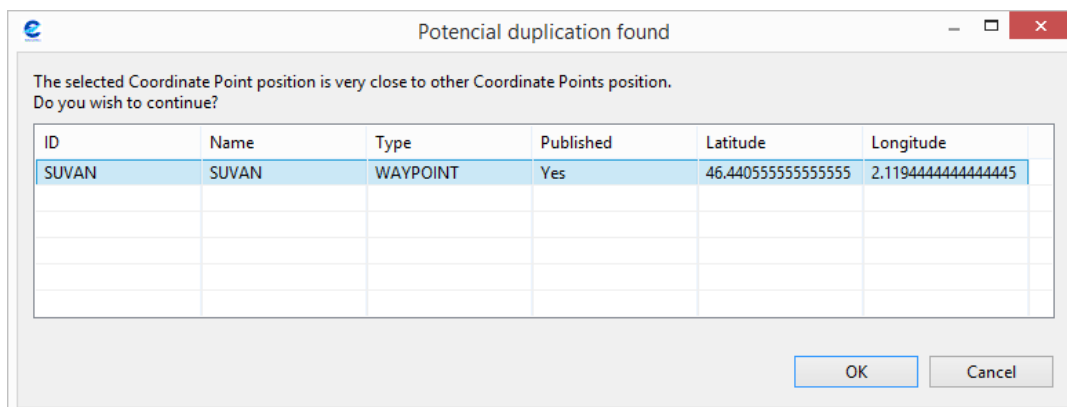

Figure 97: Coordinate point Duplication
- Click on “Save” button in order to store all information. Before saving the Coordinate Point on the database, DEMETER analyzes if the new coordinate point is close to another. In such cases, the user is alerted with the possibility of information duplication. The user is then able to decide whether to continue or cancel the coordinate point creation process (Figure 97).